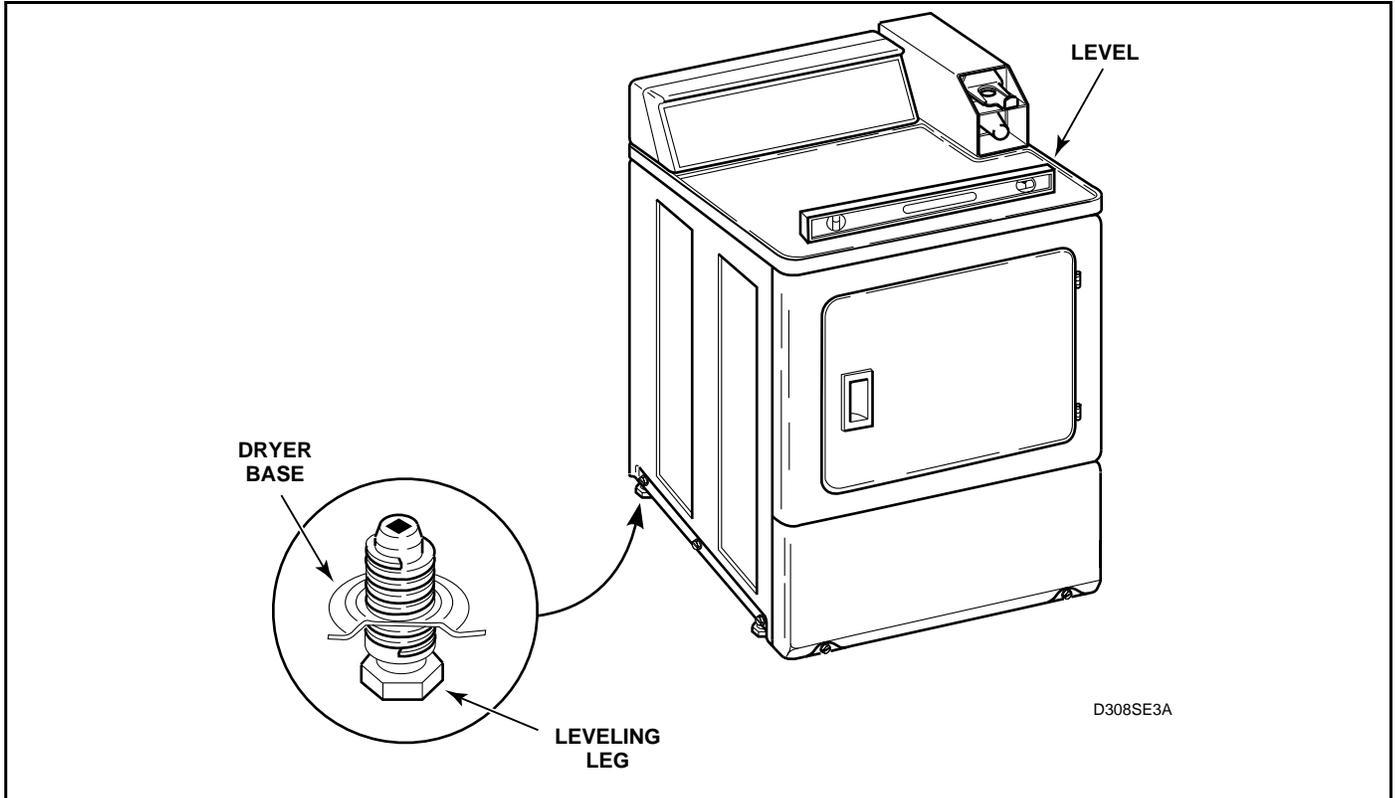

Figure 57
- p. Remove leveling legs from base and reinstall on new base. See *Figure 57*.
59. LEVELING LEGS (Figure 57)